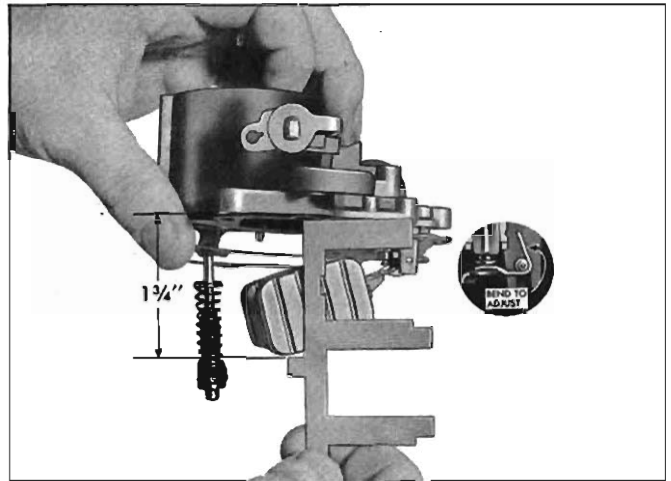

Fig. 9-11—Checking Float Drop
4. Hold bowl cover in an upright position and measure the distance from the gasket to the bottom of the float, as shown in Figure 9-11. Tool J-9577 includes a tab with which to make this check. This dimension should be  $1\frac{3}{4}$ ". Bend the tang at the end of the float hinge arm to obtain the correct drop, recheck setting after this adjustment.